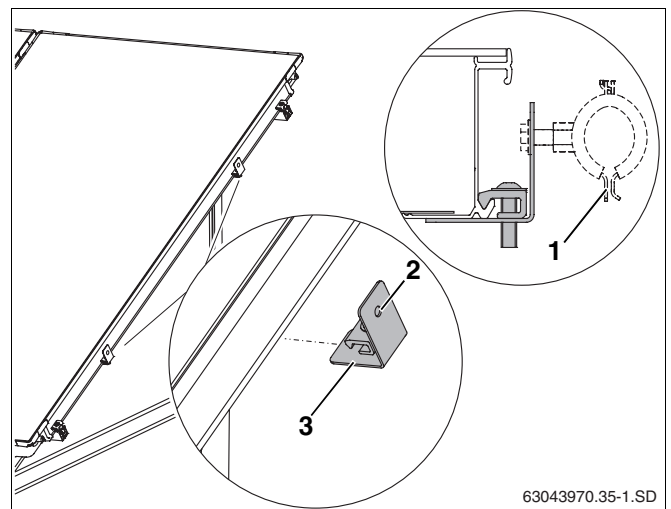

Fig. 56 Fastening holder to the collector frame
We recommend commercially available hose clamps (Fig. 56, **Item 1**) for fastening the header to the M8 thread on the holder (Fig. 56, **Item 2**).
- ▶ Place holder (Fig. 56, **Item 3**) onto collector frame and tighten with size 5 spanner.